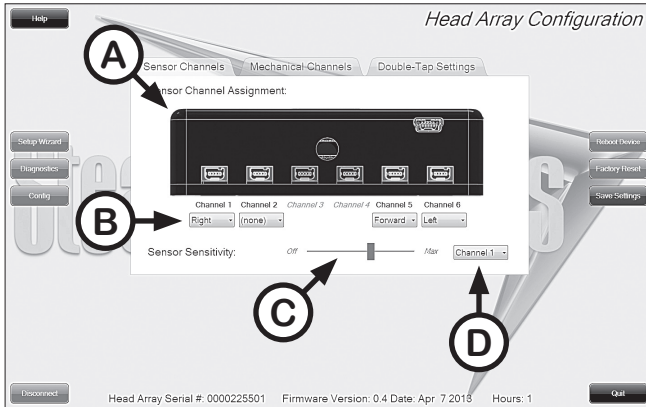

Fig.3.4.2
- A. Sensor Channels Tab** - Navigates to the Sensor Channels menu (see Fig.3.4.2 on p17)